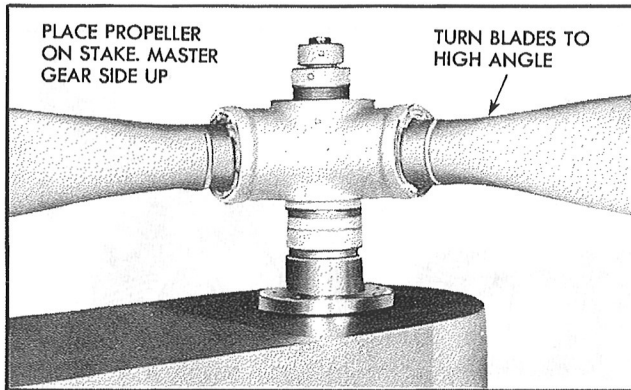
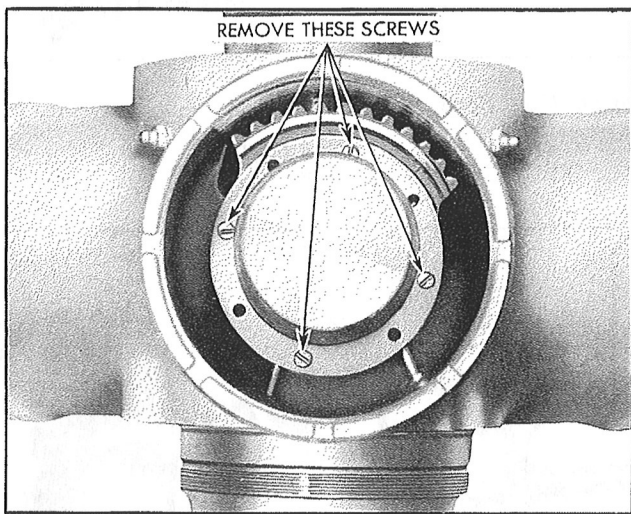

Figure 107—Turn Blade to Maximum Angle
Figure 108—Removal of the Blade Cylinder
Step 1.—Place the propeller on a bench and remove the master gear to facilitate turning of the blades to their maximum angle. Turn the propeller blades to their high blade angles. See Figure 107.
Step 2.—Remove the propeller blade. See Section VI 2b (2).
Step 3.—Using a 10" screwdriver, remove the four special head attaching screws that secure the blade cylinder to the blade gear. See Figure 108.